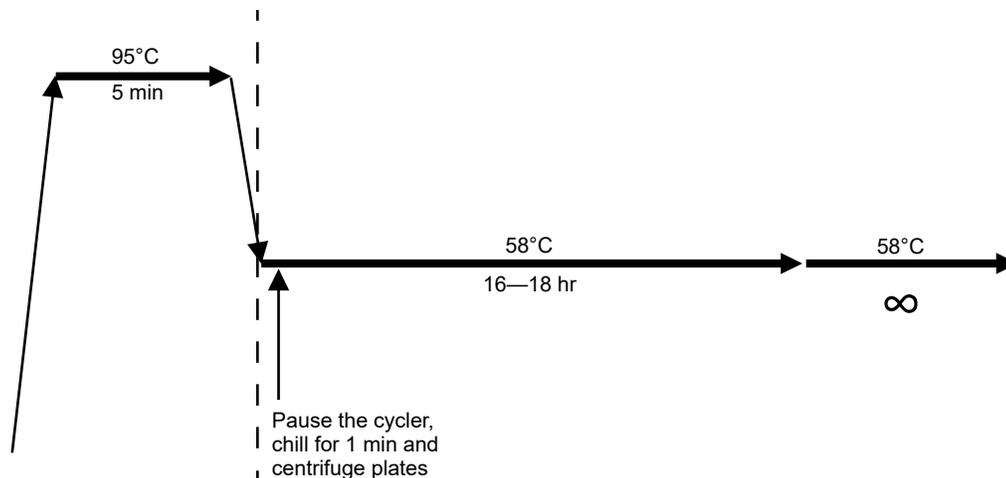

Figure 4 OncoScan Anneal thermal cycler protocol.
2. Start the OncoScan Anneal thermal cycler protocol. (Figure 4.)